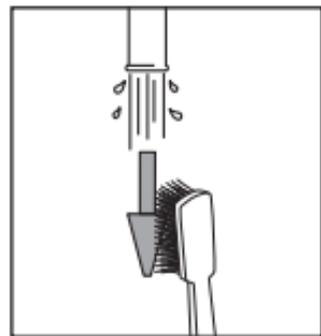

Fig. 17
- 1 Brush the entire outer of the Tip Nozzles under running tap water using a soft bristled brush for 15 seconds. (Fig. 17).